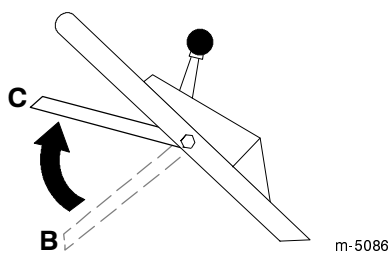

Figure 16
3. Bring the blade control bail up into the middle position about five inches (12.7 cm) below the handle cross bar (Position C in Fig. 16).
4. Release the blade control bail (Position B in Fig. 16).